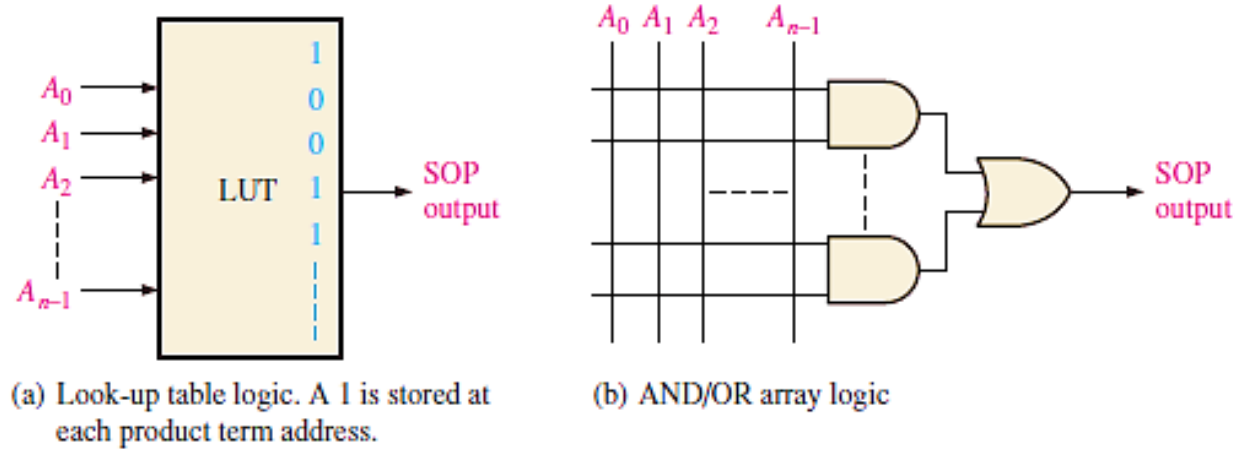

FIGURE 2 Two types of logic function generation in CPLDs.
- ❑ An **LUT** is basically a type of memory that can be programmed to produce SOP functions (discussed in more detail in next sections). These two approaches are contrasted in Figure 2.